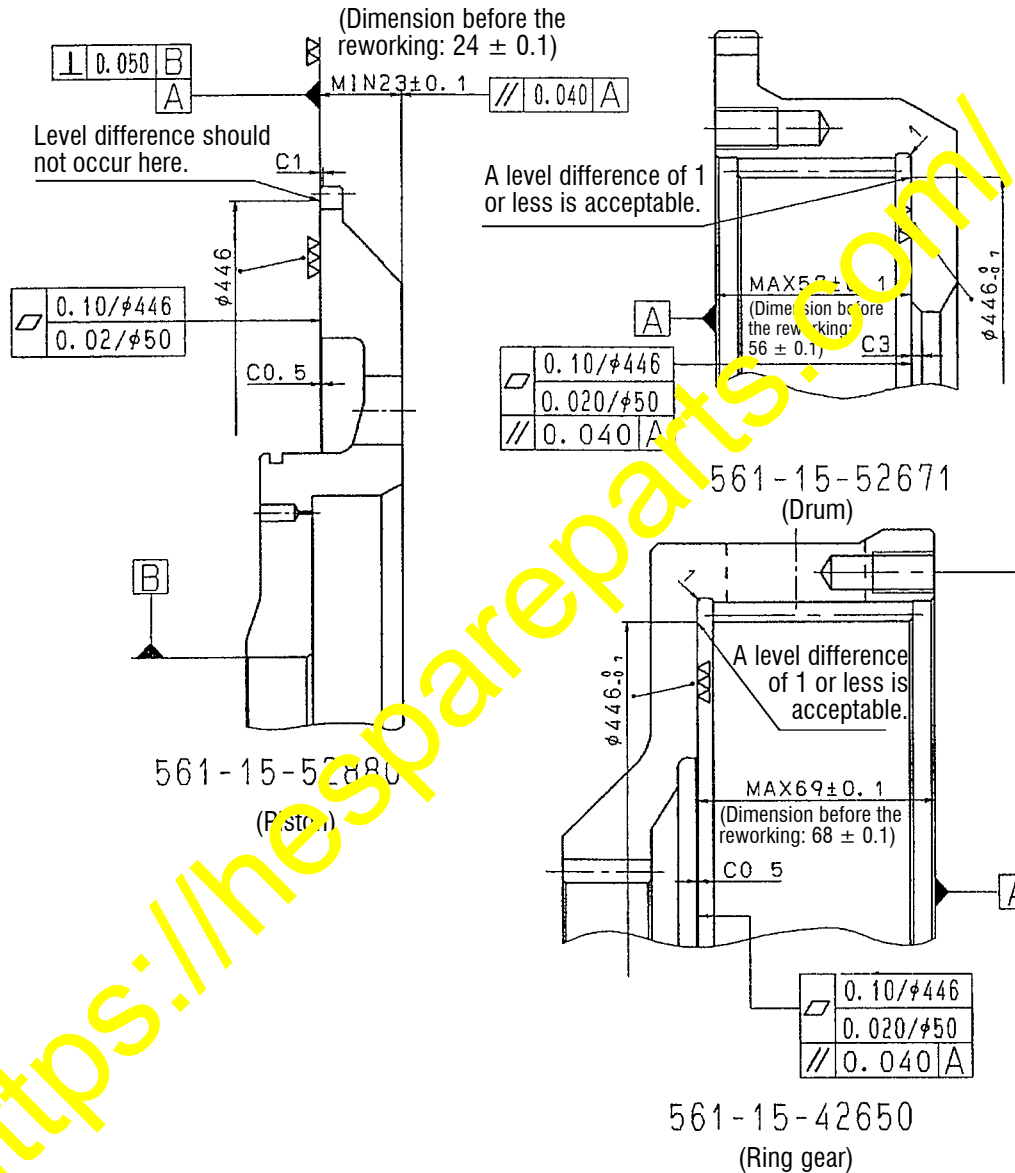

Fig. 6-1. Detailed reworking drawing for the ring gear, piston and drum
- (1) As per the instructions given in Fig. 6-1 shown below, carry out reworking to machine the wave spring sliding surface on the piston (561-15-52880), ring gear (561-15-42650) and drum (561-15-52671) until the stepped-type wear sections will be removed.